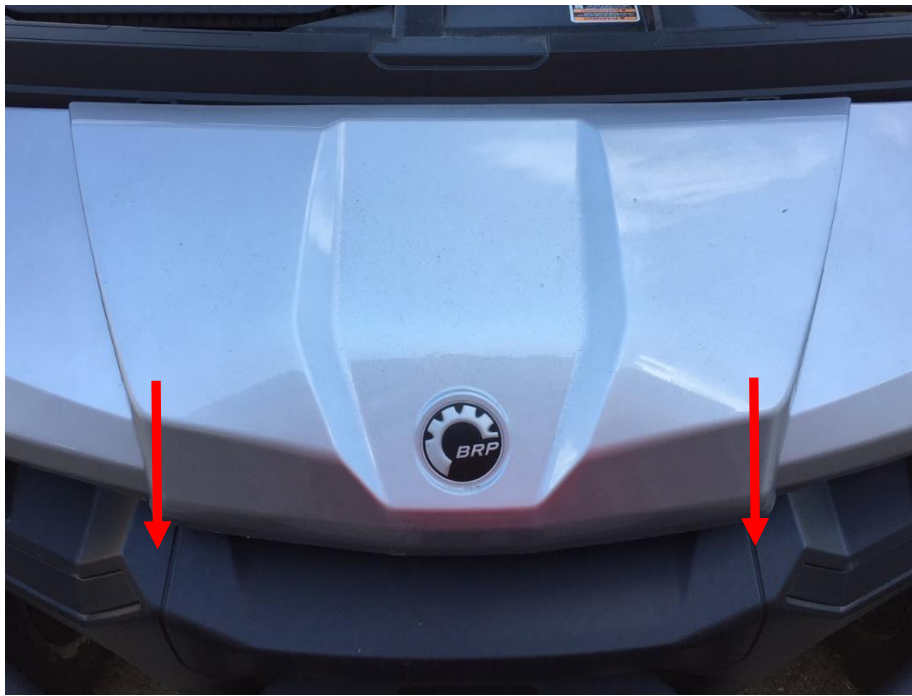

Figure 25: Lift the radiator hood access panel.
22. Lift the radiator hood access panel by pulling the hood towards the front of the vehicle, lifting the front end, and locking the hood in the resting position. See Figure 25.